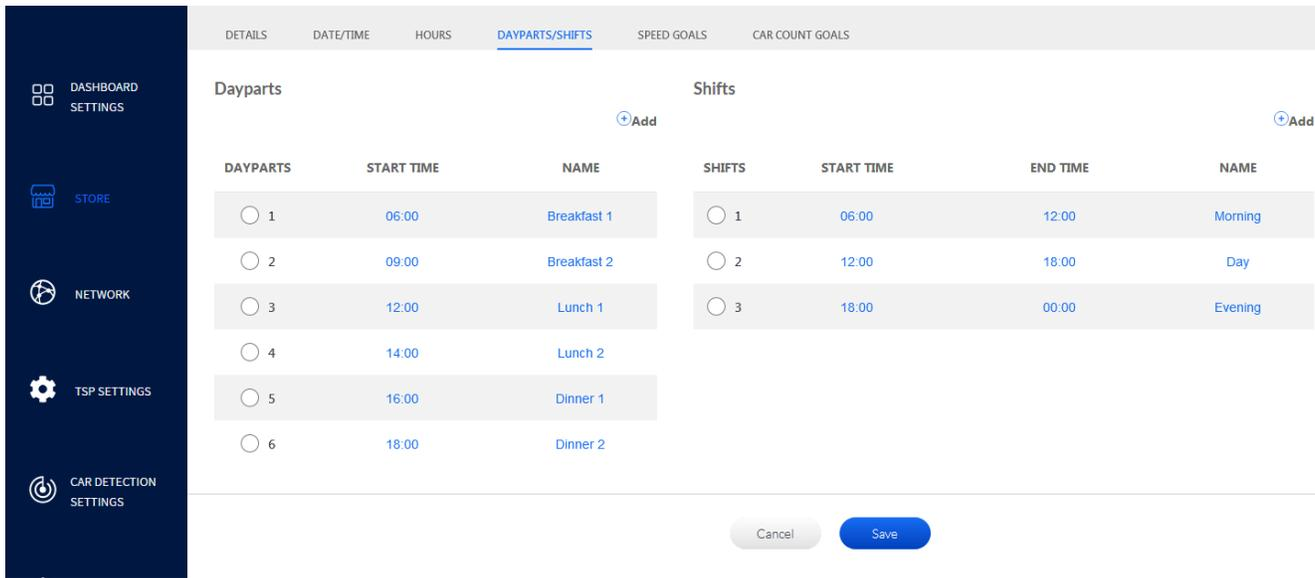

Fig. 4.4
**Example:** In Fig. 4.4 under **DAYPARTS**, there are six dayparts of various lengths (24-hour clock used). Daypart-2 is labeled "Breakfast 2". It begins at 09:00 and ends at the beginning of Daypart-3 (i.e., Lunch 1 at noon). **Dayparts can be equal periods, or they can also vary in duration.** If your day is broken into many small dayparts, you may have to scroll down to see all the dayparts displayed.
Fig. 4.4 also shows three 6-hour shift periods under **SHIFTS**. They begin with the Morning shift at 06:00 and end with the Evening shift, which runs from 18:00 to 00:00 (midnight). The system auto-